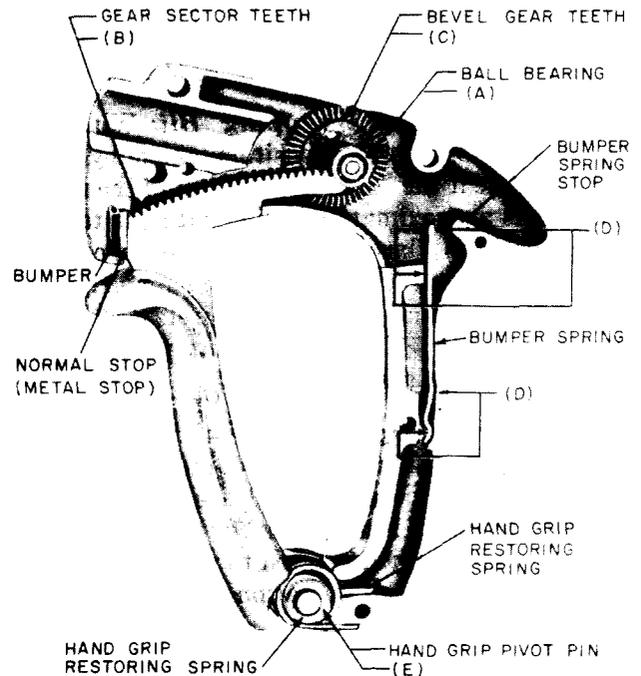

Fig. 4—KS-16363, L1, Wire-Wrapping Tool—Interior View Showing Gearing and Associated Parts
Ball Bearings, Fig. 4(A)	Space between inner and outer races of both ball bearings filled with KS-7471 grease
Teeth on Gear Sector, Fig. 4(B)	Five discharges of KS-7471 grease from the 353C grease gun distributed over the teeth
Teeth on Bevel Gear, Fig. 4(C)	Eight discharges of KS-7471 grease distributed over the teeth
Bumper Spring, Fig. 4(D)	One discharge of KS-7471 grease distributed over the five contacting surfaces indicated
Hand-Grip Pivot Pin, Fig. 4(E)	One drop of KS-7470 oil